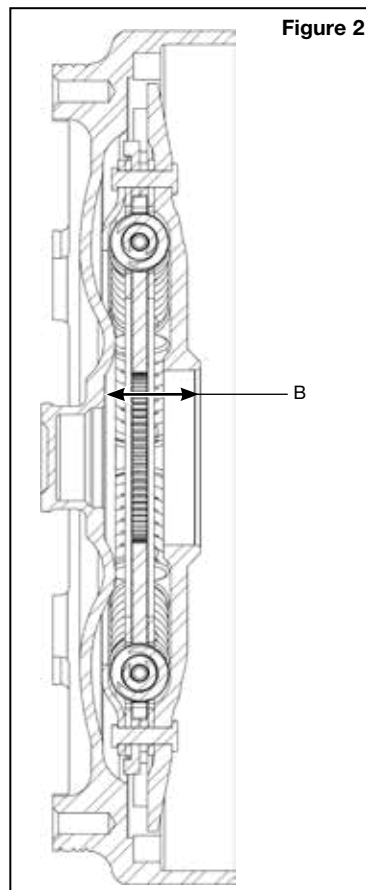

Figure 2
- Place the clutch plates and piston into the front cover (**Figure 2**). Measure from the inner lip of the piston to the thrust face of the front cover (Measurement "B" in **Figure 2**). The difference between the two measurements (A minus B) is the amount of clutch release clearance. It is recommended to set clutch release clearance between .040-.060".